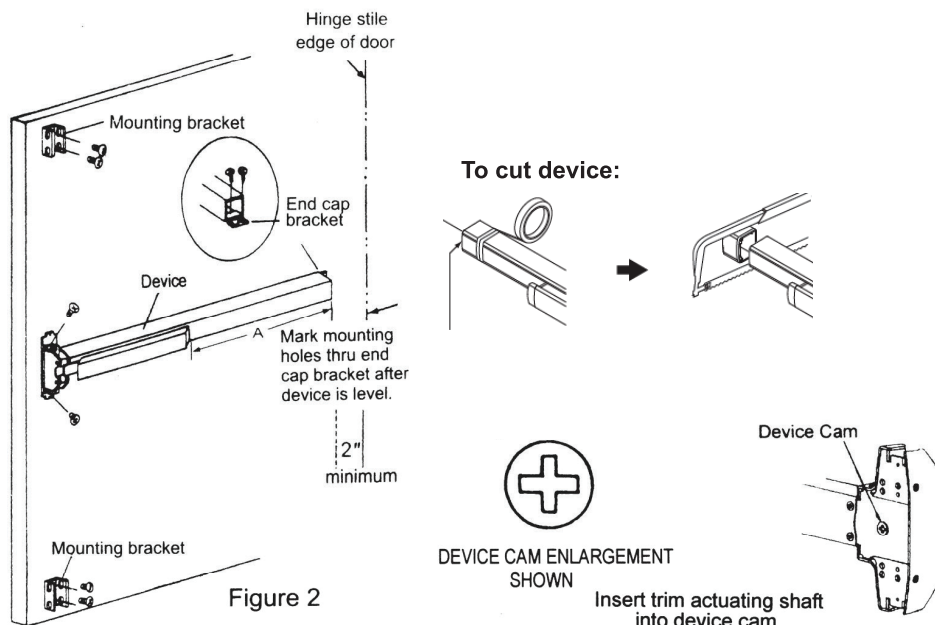

Figure 2
- Install mounting brackets on the top and bottom of the door. (See Figure 2.)